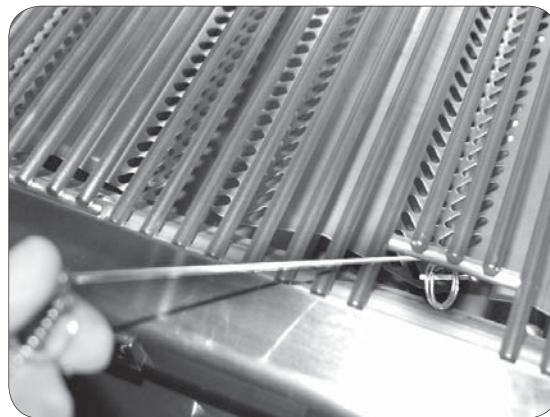

Fig. 15-2 - Manual lighting
2. Insert either a burning long-barrel butane lighter, a burning long-stem match, or a burning match held by a wire extension holder through the cooking grid opening to the top of the burner (Fig. 15-2).
4. If the burner does not light, **immediately depress the knob and turn the valve to OFF**. **WAIT FIVE (5) MINUTES** before repeating steps 2 through 4 of the **MANUAL LIGHTING** instructions.